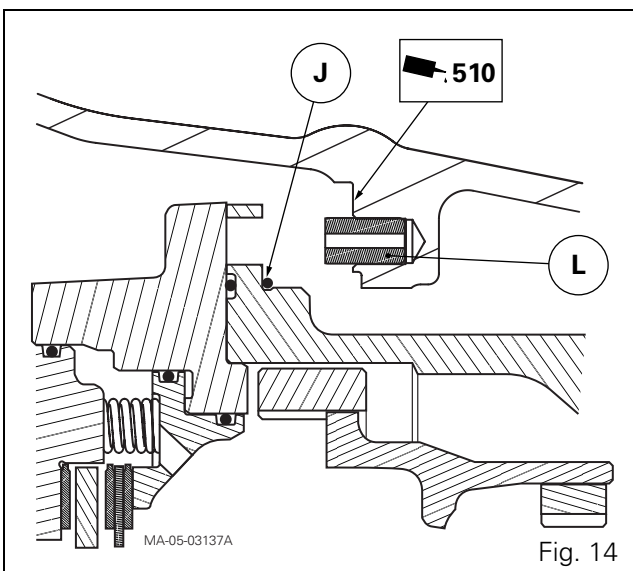

Fig. 14
16. Fit the cover screws (26) to the Powershift module, after smearing them with Loctite 242 or equivalent. Tighten the screws to a torque of 66 Nm.
17. Clean the mating faces (Fig. 14) then apply Loctite 510 or equivalent sealing product.
18. Refit the "O" ring (J) (Fig. 14). Grease it lightly and fit it on the Powershift module.
20. Lower the sling, aligning the centring pin (L) with the port (Fig. 14).